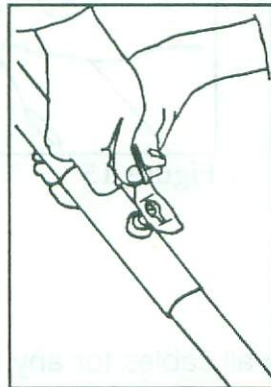

Figure 12
7) Attach the top rear wire to the rear keel bolt, making sure again that the bridle cables are *inside* the wire, and attach the rubber safety. (Figure 12)